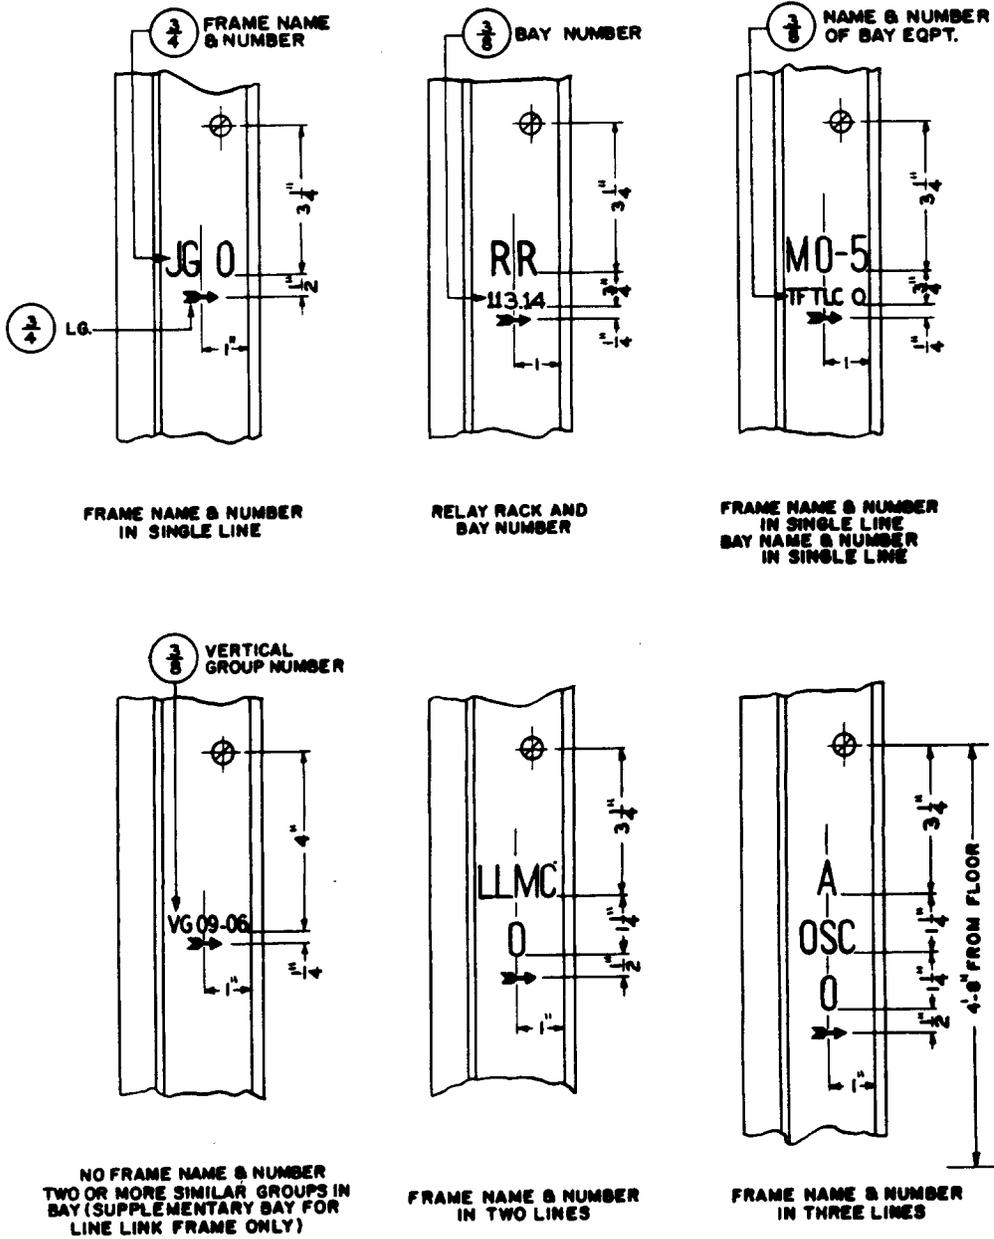

Fig. 10 - Fixed Rear Covers (When Furnished) of Left Upright, When Facing Rear of Frame of Single-bay, Box-type Frames
2.24 An arrow on single-bay frames shall be stamped on the fixed rear cover (when furnished) of the left upright to indicate the bay to which the designation applies. (See Fig. 10.)